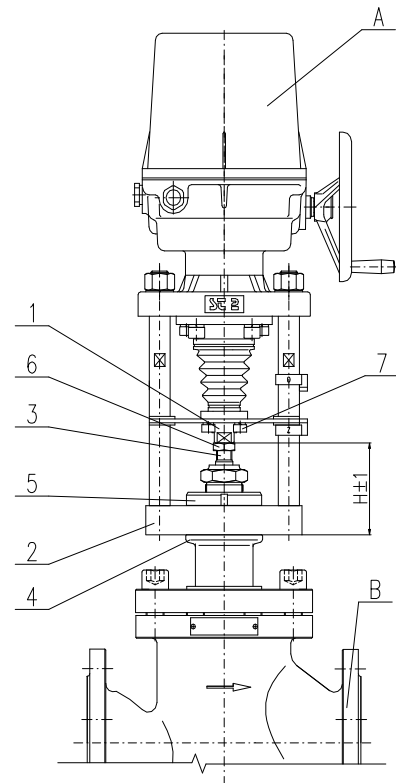

Fig.2
Mechanical connection for pillar versions with flanges (fig.2)
- Set the actuator (A) to mid-position and the valve (B) to the position "closed".
- Loosen four screws (7) the coupling clamping parts (1) on the actuator shaft
- Place the actuator (A) onto the valve (4) and fix the actuator slightly with the screws, or with the central nut (5) (according to shape of connecting flange of EA) in the way you be able to move it.
- By turning hand wheel (1) move thread coupling EA toward shaft of the valve
- Tighten the screws, or central nut (5) with the cross system to fasten the actuator (2) and valve (4) flanges.
- Check the connection diameters in accordance with the Fig. 2.
- Unscrew the coupling nut (1) by one more revolution (to create the pre-stress against the valve seat), and tighten the coupling screws (7) firmly